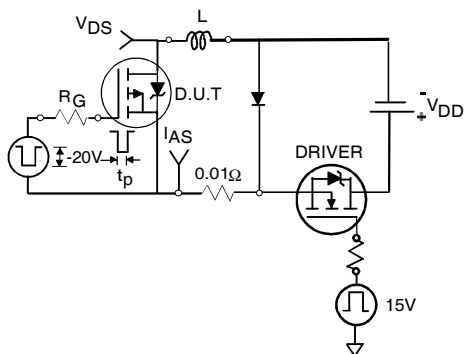

Fig 12a. Unclamped Inductive Test Circuit
5. Limited by  $T_{Jmax}$ , see Fig.12a, 12b, 15, 16 for typical repetitive avalanche performance.
3. Equation below based on circuit and waveforms shown in Figures 12a, 12b.